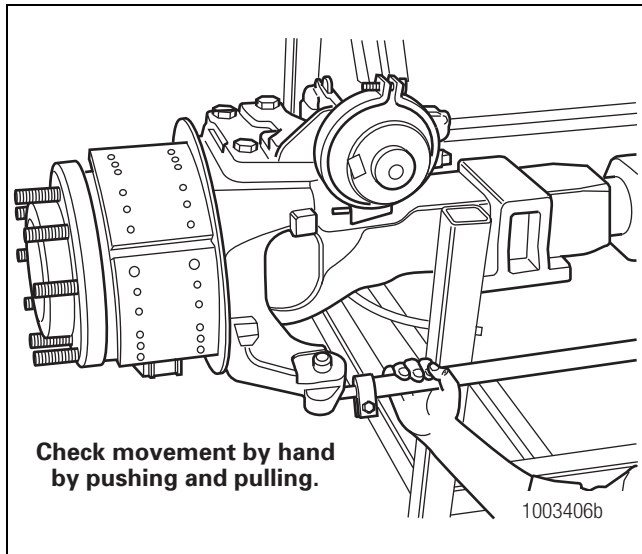

Figure 5.15
11. Use a push-pull movement to apply approximately 100 pounds (45 kg) of hand pressure several times to the tie rod assembly. Check for movement or looseness at both tie rod ends. Figure 5.15.